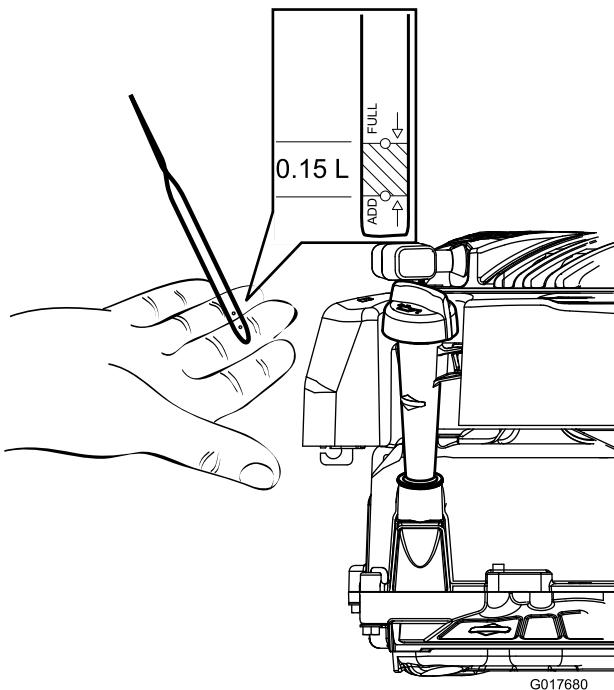

Figure 20
6. Slowly pour oil into the oil fill tube until the oil level reaches the Full line on the dipstick (Figure 20). Wait 3 minutes after adding oil to check the oil level with the dipstick. Do not overfill. (Max. fill: 0.47 l (16 oz.), type: SAE 30 detergent oil with an API service classification of SF, SG, SH, SJ, SL, or higher.)